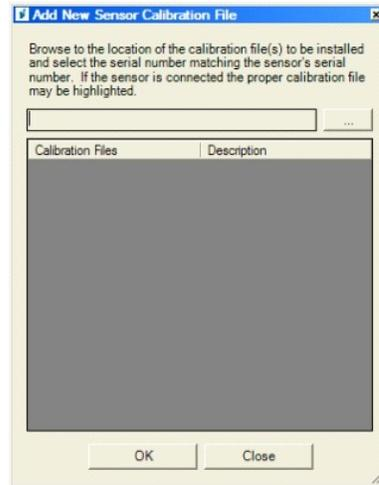

Figure 82
6. A new window will open (see Figure 82 on page 53).
7. Click the Browse Button (see Figure 82 on page 53) and navigate to My Computer.